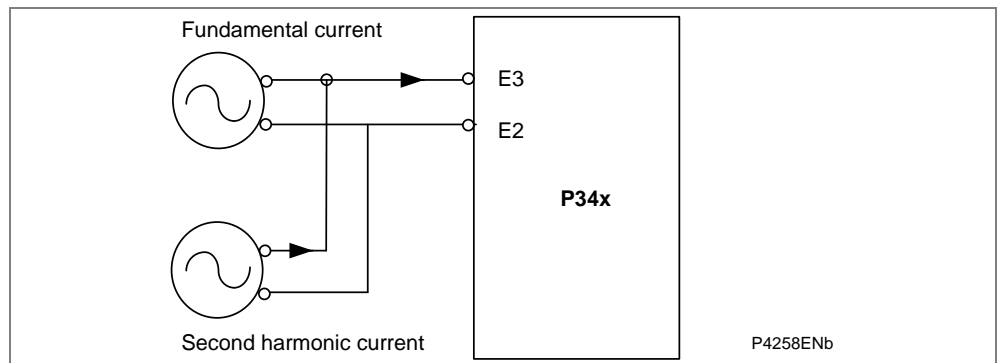

Figure 12 - Second harmonic test(1A and 60TE)
1. Connect two current test sources to one phase of any current bias input. Figure 12 shows the current sources connected to A phase of current bias input 1: